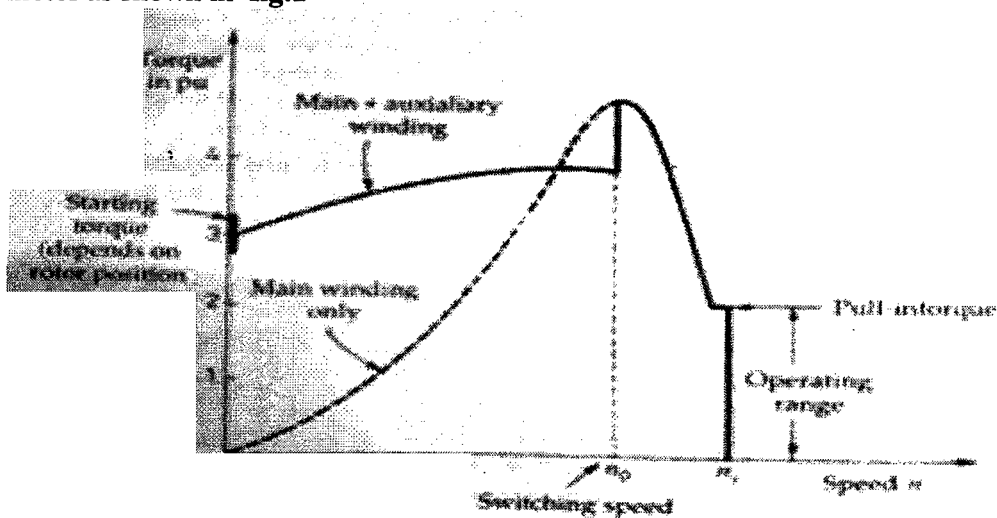

fig.1
b) Explain all the marked portion in speed-torque characteristics of single-phase reluctance motor as shown in fig.1